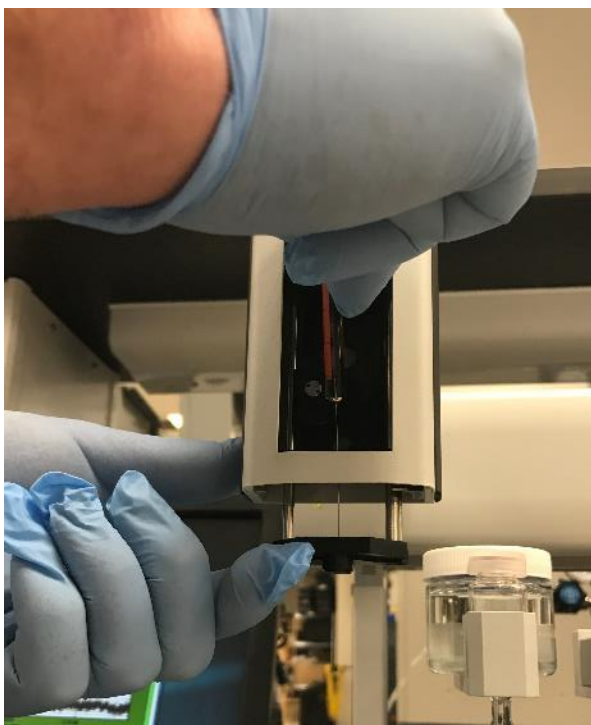

Figure 131. Insert the New Syringe.
STEP 11 | Insert the new needle tip into the two holes (**Figure 131**).